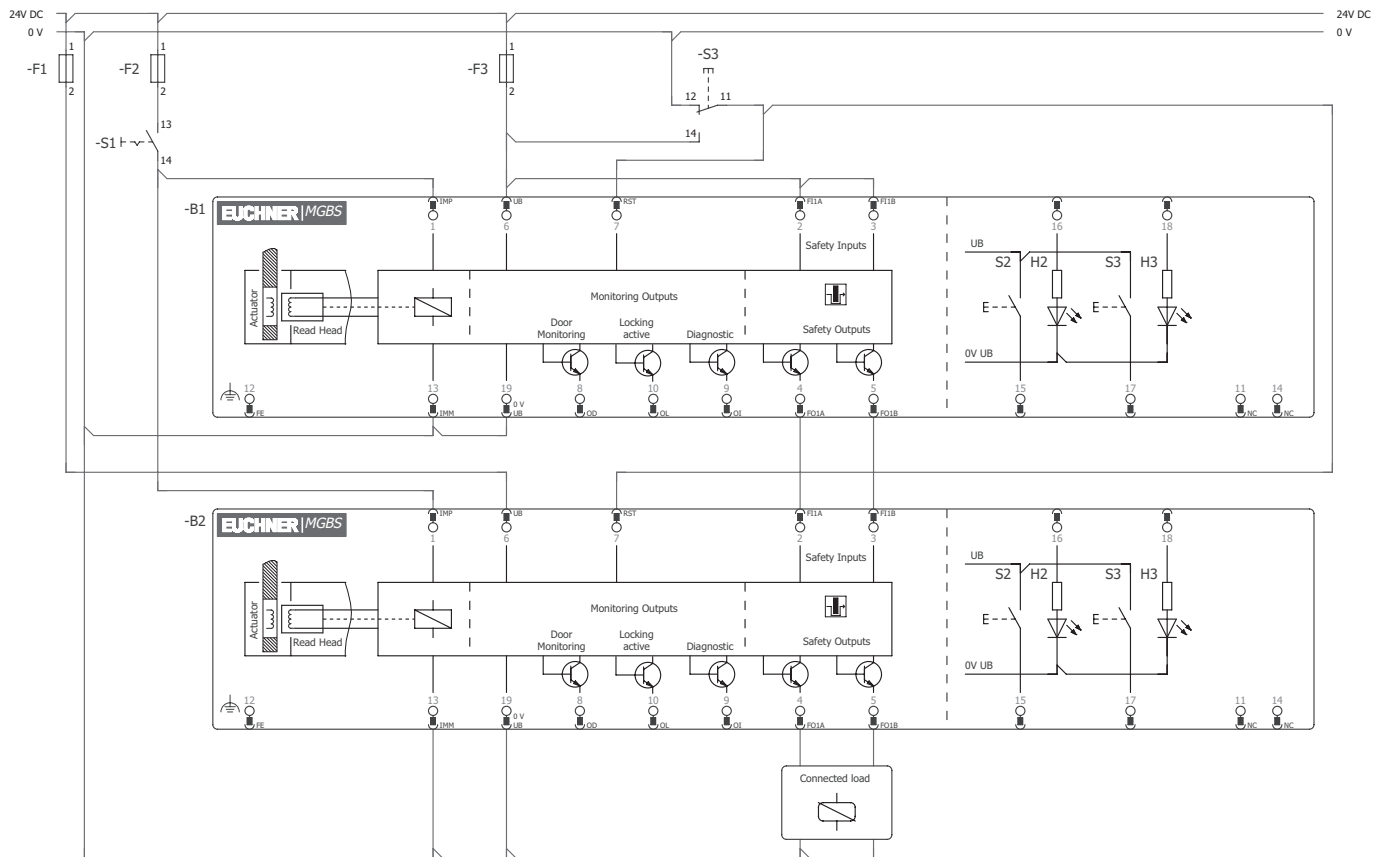

Figure 6: Connection example for one switch chain; version with plug connector M23
- A common signal must be used for all locking modules in the chain. This can be a changeover switch or the output of a control system. A pushbutton is not suitable because the reset must always be connected to GND during operation (see switch S3 in Figure 6 on page 31).
Input RST must be connected as shown in *Figure 6 on page 31* to permit this.